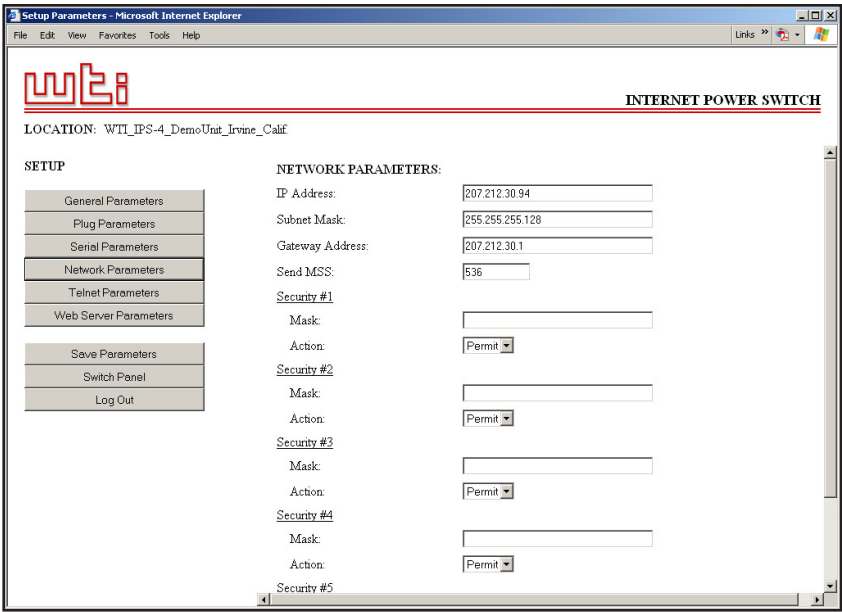

Figure 5.9: Network Parameters Menu - Web Browser Interface
- **Web Browser Interface:** Click the "Setup" button to access the Setup Menus, and then click the "Network Parameters" button. The Web Parameters Menu will be displayed as shown in Figure 5.9.
- a) **Web Browser Interface:** The IP Security feature is configured using the fields at the bottom of the Network Parameters Menu as shown in Figure 5.9.